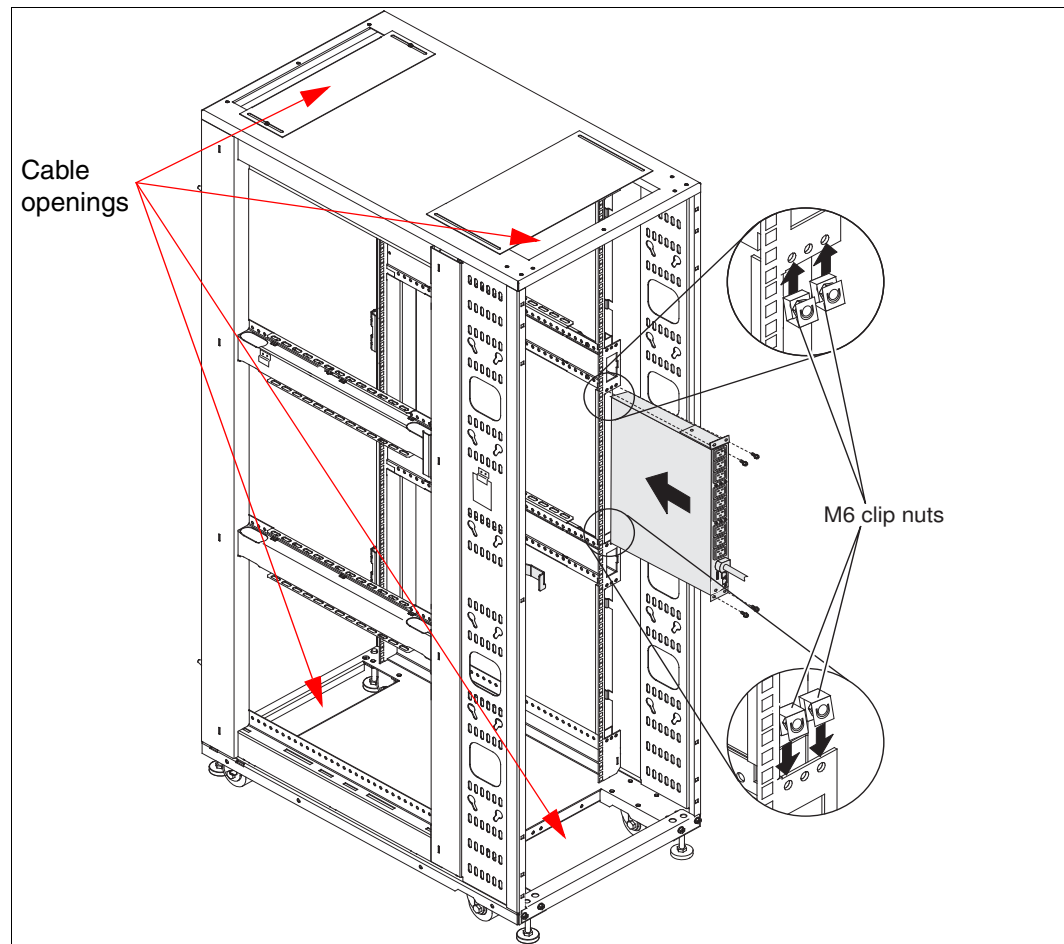

Figure 5-11 1U Power distribution unit mounted in 1U pocket on flange of rear post
- ▶ Six 1U vertical mounting brackets in the rear post flanges, which can be used for power distribution units, switches, or other 1U devices, as shown in Figure 5-11.
- ▶ Front and rear cable access openings at the top and bottom of the rack, as indicated by the arrows that are shown in Figure 5-11 on page 79. The top cable access opening doors slide to restrict the size of the opening. For most effective use, do not tightly bundle cable that is passing through these openings. Instead, use the doors to flatten them in to a narrow row.
Front and rear cable access openings are available at the top and bottom of the rack, as indicated by arrows in Figure 5-11 on page 79. The top cable access opening doors slide to restrict the size of the opening. For most effective use, do not tightly bundle cable that is passing through these openings. Instead, use the doors to flatten them in to a narrow row.